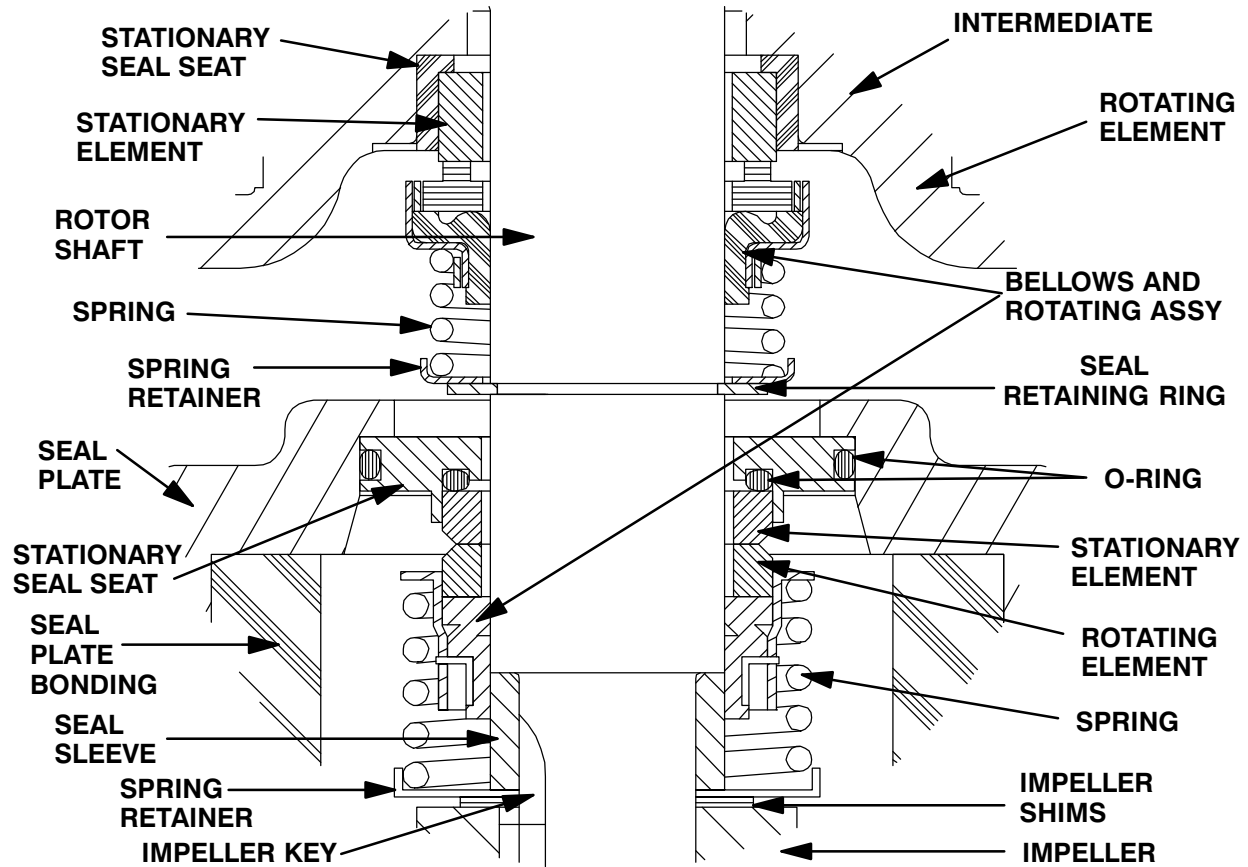

Figure C-3. Upper And Lower Seal Assemblies
Install the shaft seals as illustrated in Figure C-3.
Apply a **light** coating of oil to the seal seating surface on the shaft, the groove for the retaining ring (34), and I.D. of the bellows. Inspect the seal face to ensure that it is clean and dry. If cleaning is necessary, use a clean tissue to wipe in a circular pattern. Slide the seal rotating portion onto the lubricated shaft as shown in Figure C-3. Apply firm, steady pressure on the seal retainer until it slides down the shaft and the seal faces contact.
Slide the seal spring over the shaft and bellows retainer, and install the spring retainer. Install the seal retaining ring (18). See Figure C-3 for the proper order of seal assembly.
Slide the seal spring over the shaft and bellows retainer, and install the seal spring retainer (17). See Figure C-3 for proper order of seal assembly.